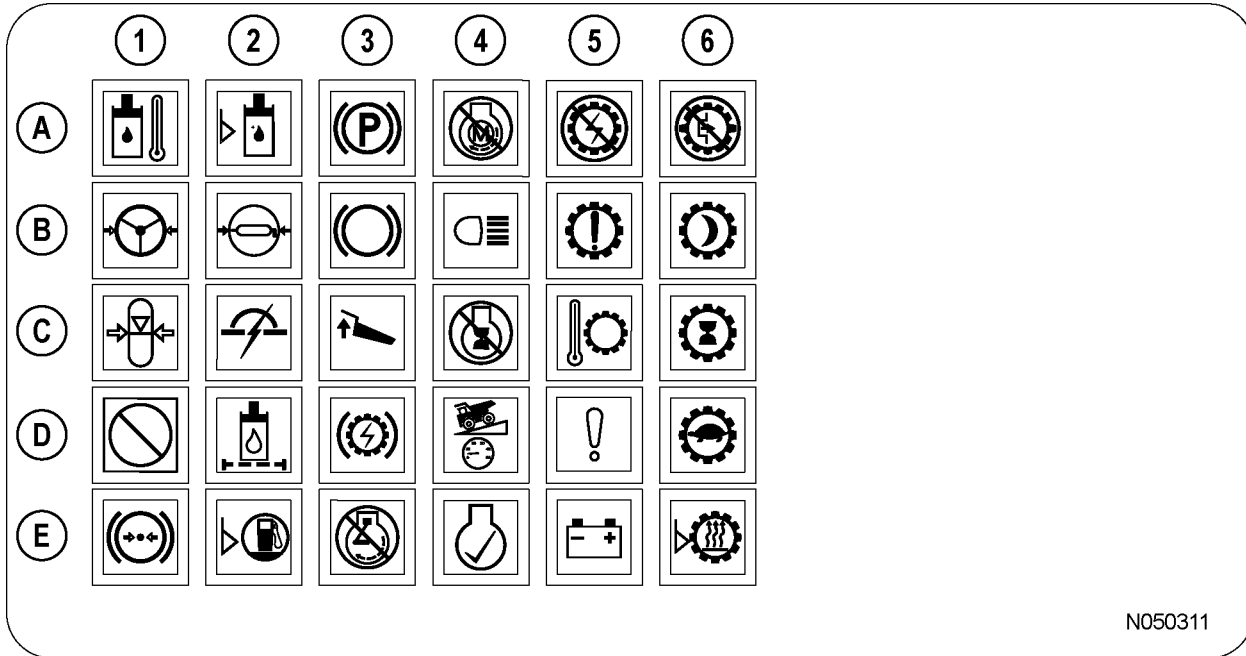

FIGURE 32-8. OVERHEAD STATUS / WARNING INDICATOR
Amber indicator light (B6, Figure 32-8) in the overhead panel will illuminate when the rest mode is activated.
*NOTE: Do not use the lamp check switch while the engine is on. Pressing this switch while the engine is on will cause false electrical system faults. Warning light (D5, Figure 32-8) will illuminate and engine shutdown is required to turn it off.*
Backup light switch (18, Figure 32-7) allows the backup lights to be turned on for added visibility and safety when the directional control lever is not in the REVERSE position. When the switch is in the ON position, the backup light indicator (B4, Figure 32-8) in the overhead panel will be illuminated.
Red indicates high oil temperature. Continued operation could damage components in the hydraulic system. Warning lights (A1) and (E1, Figure 32-8) in the overhead panel will illuminate when the temperature exceeds a certain level (when the needle enters the red zone). If this occurs, the operator should safely stop the truck, move directional control lever to PARK and operate the engine at 1200 - 1500 rpm to reduce system temperature.
Refer to Figure 32-8 and the descriptions below for explanations of the symbols. Location of the symbols is described by rows (A - E) and columns (1 - 6).